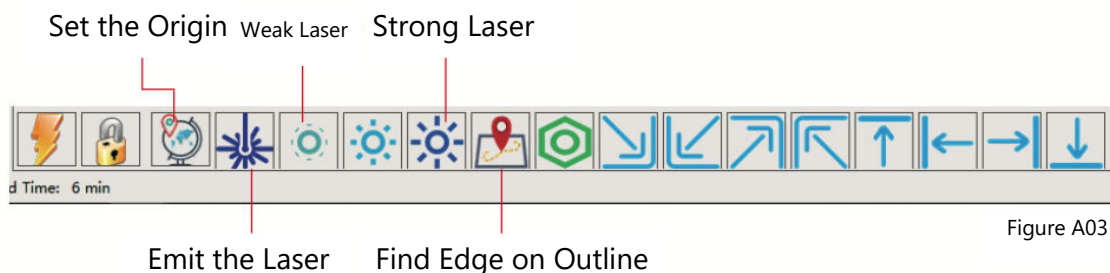

Figure A03
- Wear protective eyewear to observe whether the laser module emits blue light (Refer to Figure A03).